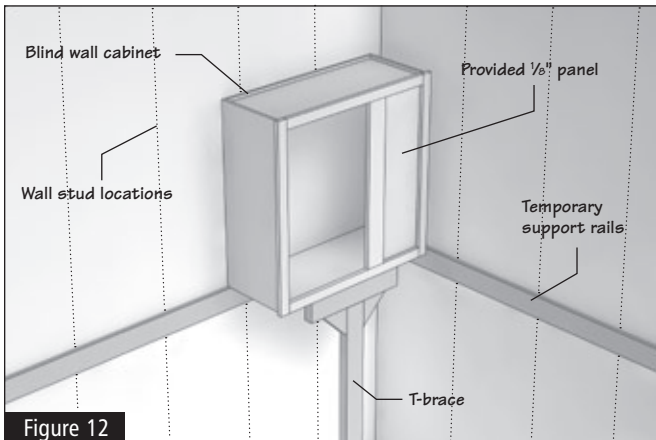

Figure 12
- 3.7** If there is a blind corner cabinet, the opening should be sealed at this point with the 1/8" panel packed inside the cabinet. Pre-drill for small finishing nails or use a pin nailer. (Figure 12)